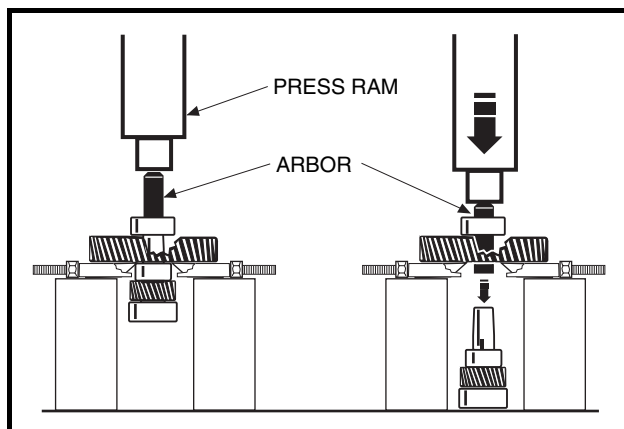
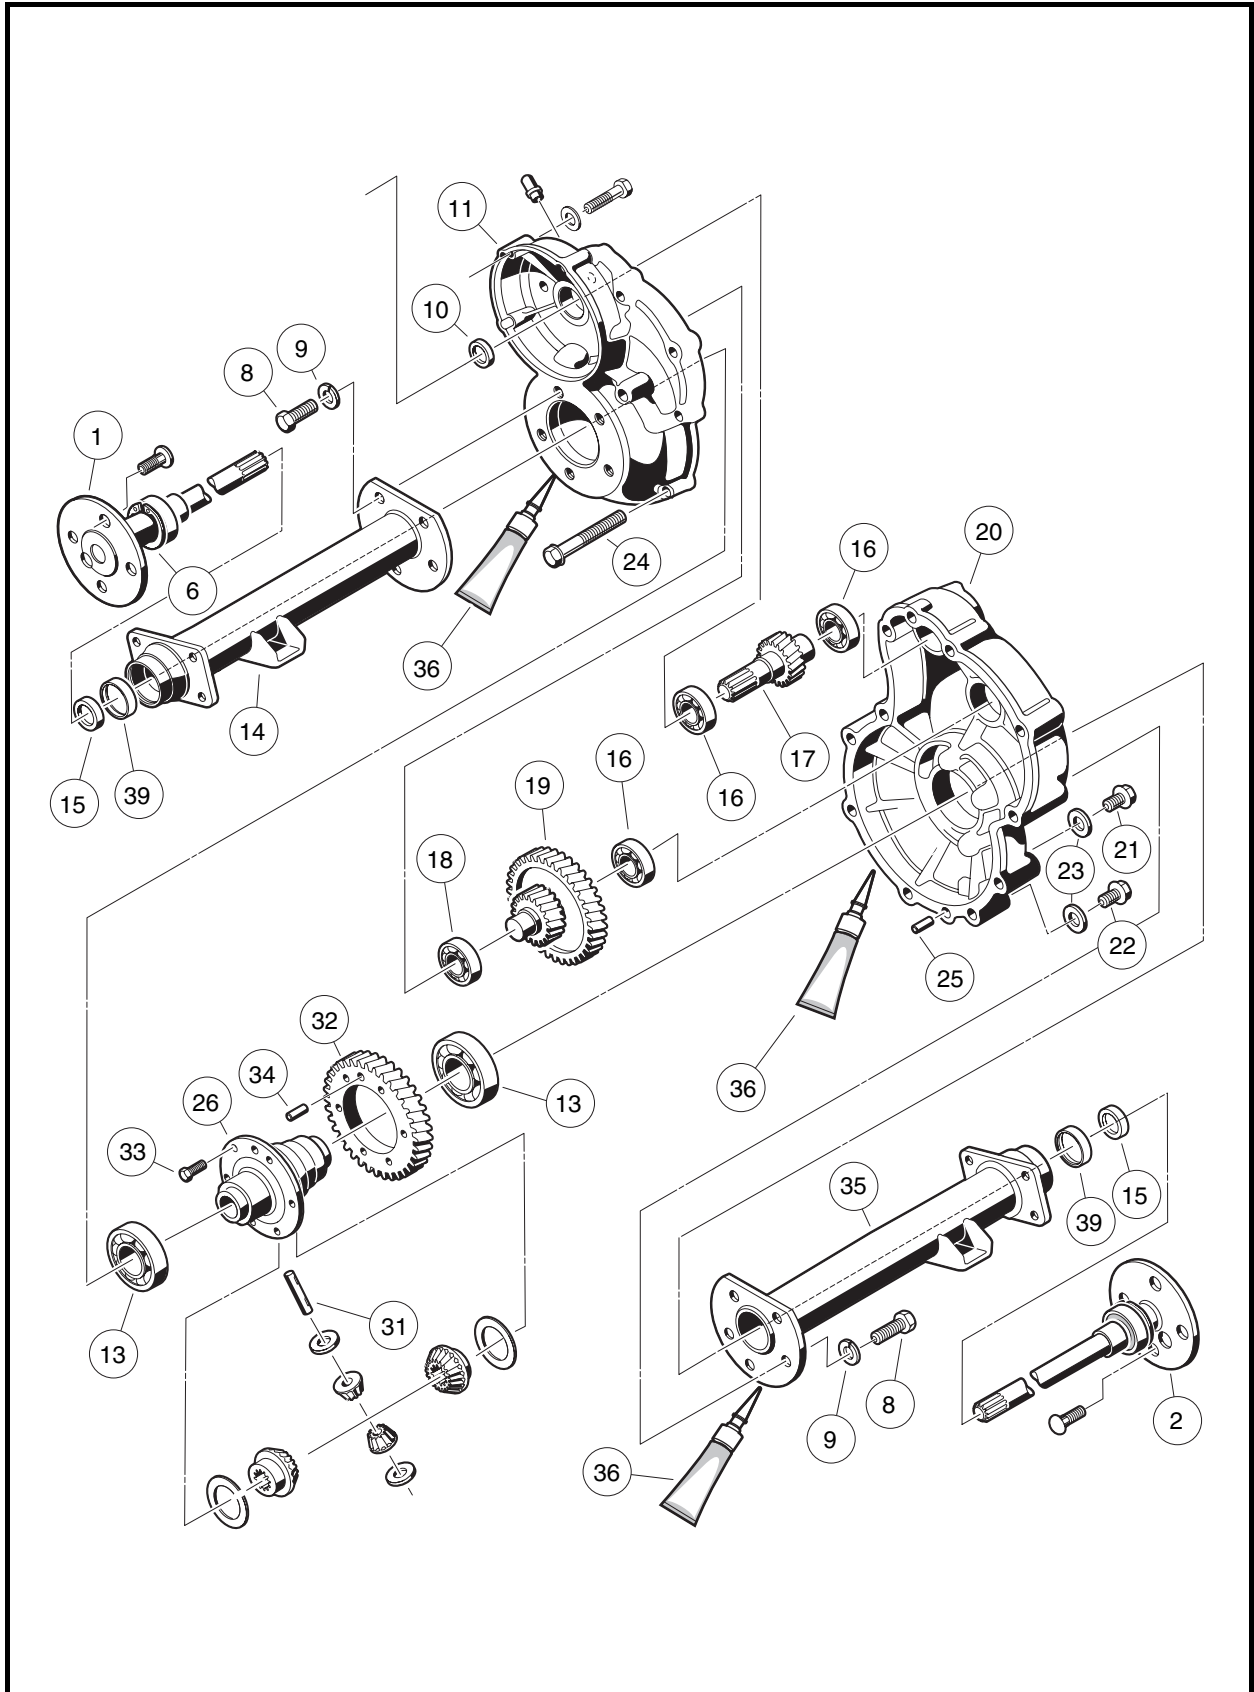
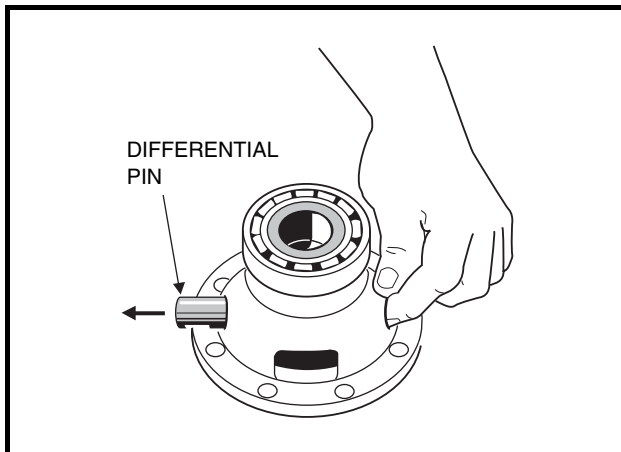

Figure 23-13 Intermediate Gear Assembly
Figure 23-14 Transaxle – Type G
Figure 23-16 Differential Pin
1. To detach axle tubes (14 and 35) from the transaxle housing, remove the bolts and lock washers (8 and 9) (Figure 23-14, Page 23-8).
2. Remove 11 bolts (24) that hold housing together.
3. Pull the halves of the housing (11 and 20) apart. If necessary, tap lightly on the spline of the input pinion (17). See following CAUTION.
4. Remove input pinion gear (17) by pulling gear out while rocking intermediate gear assembly (19). Lift intermediate gear assembly and differential gear case (26) unit out simultaneously (Figure 23-14, Page 23-8). See following CAUTION.
5. Use a bearing puller or arbor press to remove bearings (16) from the input pinion gear. If the oil seal (10) is damaged, replace it (Figure 23-14, Page 23-8). See following CAUTION.
6. To disassemble the intermediate gear assembly, press off together the bearing (16) and the gear (19) (Figure 23-14, Page 23-8). See also Figure 23-13, Page 23-7.
7. Press the bearing (18) off the intermediate gear assembly.
- 8.1. Remove four hex bolts (33) that secure the ring gear (32) to the differential case (26) (**Figure 23-14, Page 23-8**).
- 8.4. Remove the differential pin (31) by pushing pin through differential gear case from one side (**Figure 23-14, Page 23-8**). See also **Figure 23-16, Page 23-9**.
- 8.7. Inspect the bearings (13) of the differential case (26) and replace them if they are damaged (**Figure 23-14, Page 23-8**). To remove them, press them off. **See following CAUTION.**
1. If bearings (13) were removed during disassembly, install new bearings using an arbor press (**Figure 23-14, Page 23-8**).
7. Install both dowel pins (25) in the transaxle housing (20) (**Figure 23-14, Page 23-8**).